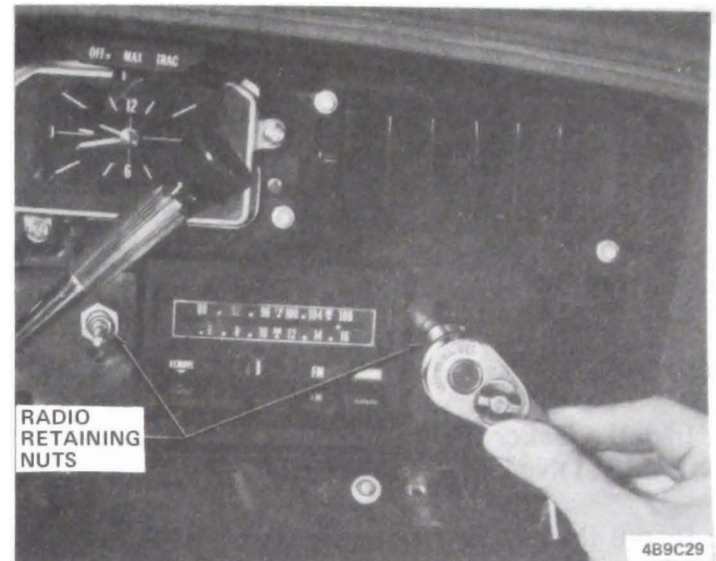

Figure 9C-32 Removing Radio Retaining Nuts
8. Remove the radio retaining nuts from the threaded portion of the control shafts. See Figure 9C-32.
9. Remove 2 screws retaining the power antenna relay and remove. See Figure 9C-57.